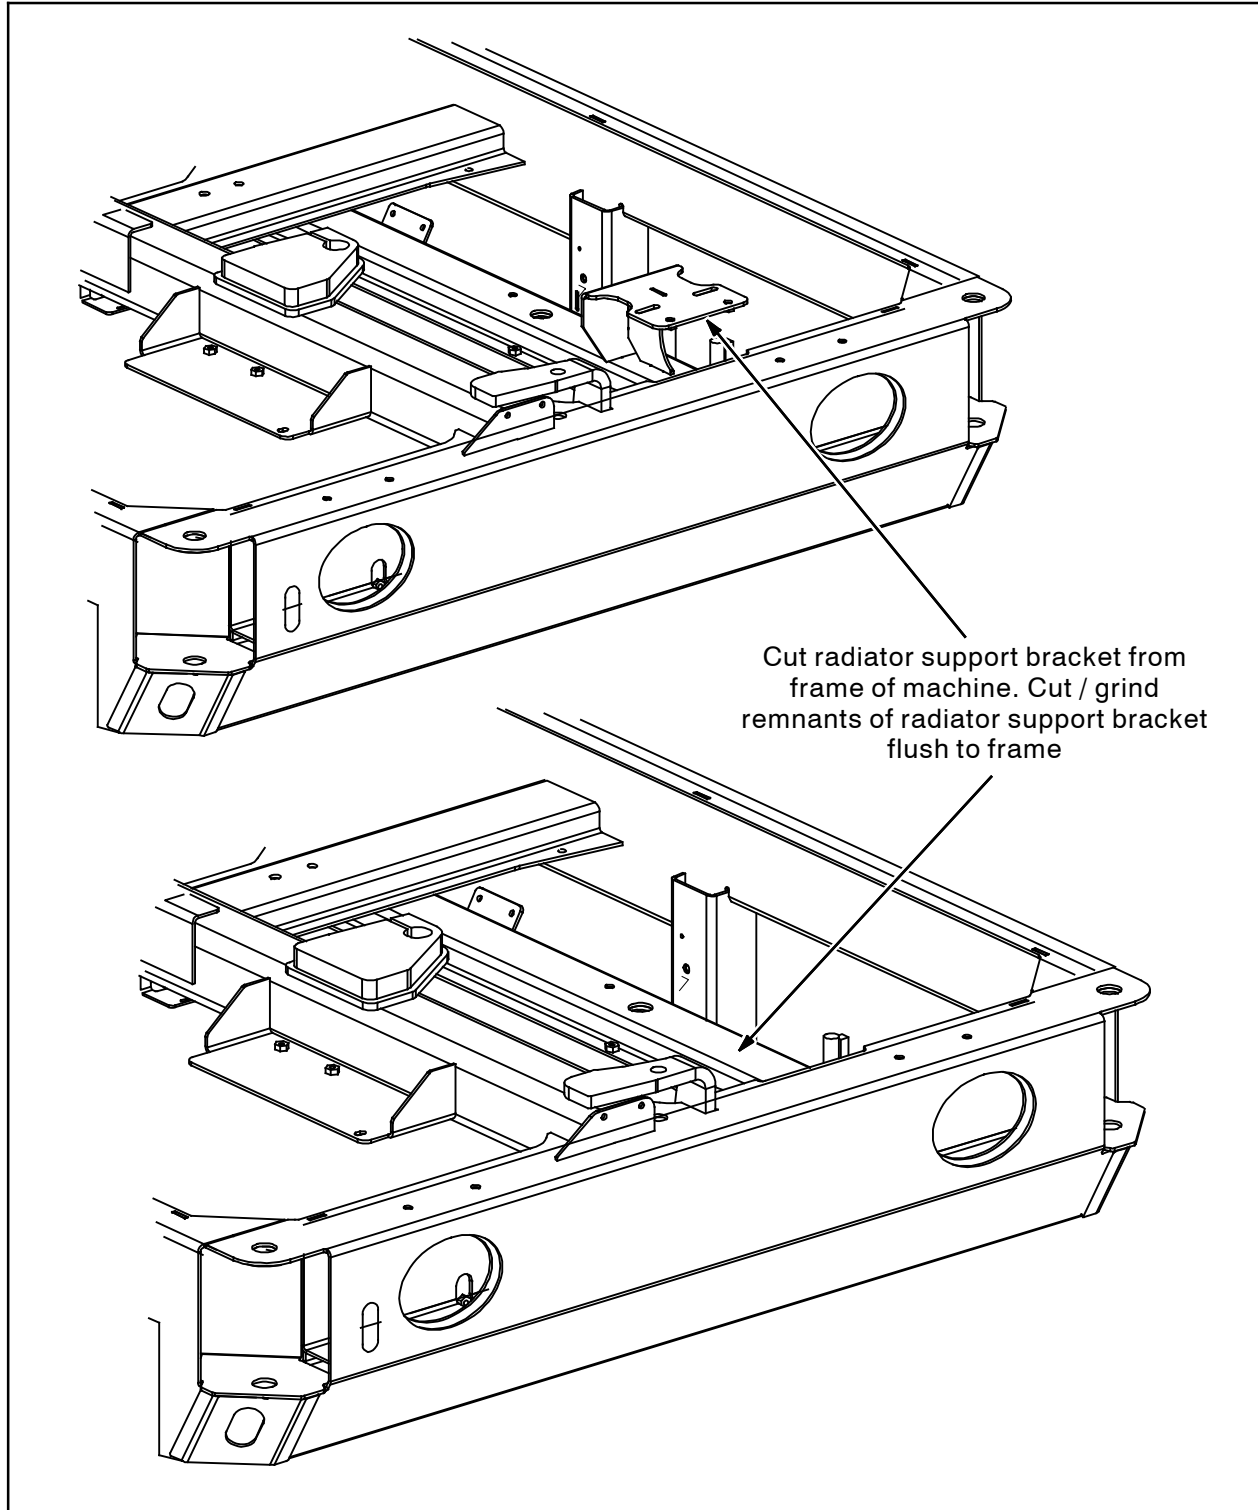

FIG. 5
4. Cut the radiator support bracket from the frame of the machine. (Fig. 5)
39. Reinstall the screen cover plate (20) onto the radiator assembly. (Fig. 5)